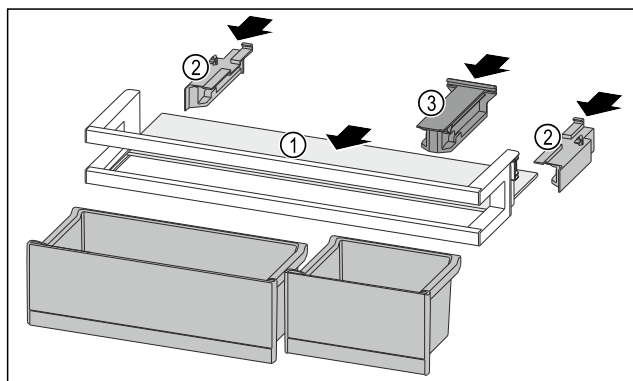

Fig. 120
- Push the shelf Fig. 120 (1) into the side recesses.
- Insert the side parts Fig. 120 (2).
- Insert the holding part Fig. 120 (3).